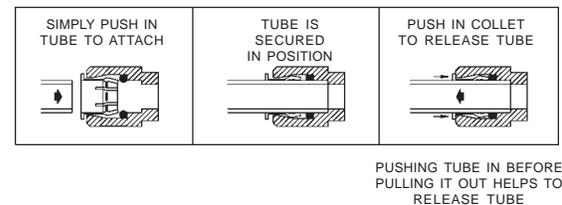

FIG. 6
3. **Remove bottom access panel** from fountain basin and save the screws. Install the fountain to the back panel and wall using (4) 5/16" bolts and washers (not provided). Bolts should be long enough to securely fasten the fountain to the wall. Tighten securely, but do not over tighten. Over tightening will crack the Marblyte Fountain.
4. **Remove elbow from end of p-trap** (item 1) and attach it to drain tube. Re-attach elbow to p-trap and cut waste tube to required length using plumbing hardware and trap as guide.
5. **Make water supply connections** from service stop to the fountain strainer (Item 16) by inserting the water inlet line into the inlet side of strainer until it reaches a positive stop about 3/4", (See Figure 6, Page 7). Turn on water supply and check for leaks. Newly installed water supply line should be insulated after leak check is completed. **DO NOT SOLDER TUBES INSERTED INTO THE STRAINER AS DAMAGE TO THE O-RINGS MAY RESULT.**
**Actuation of Quick Connect Water Fittings:** Cooler is provided with lead-free connectors which utilize an o-ring water seal. To remove tubing from the fitting, relieve water pressure, push in on the gray collar while pulling on the tubing.(See Figure 6, Page 7). To insert tubing, push tube straight into fitting until it reaches a positive stop, approximately 3/4".